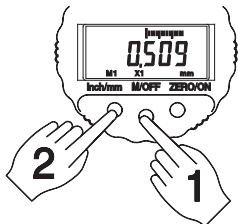

Figure 3 - Entering the Set-Up Mode
- 1) Simultaneously press and hold **M/OFF** (1), then quickly press and release **inch/mm** (2) once to enable the setup mode. (**M1** icon appears in the lower left corner of the LCD) (Figure 3).